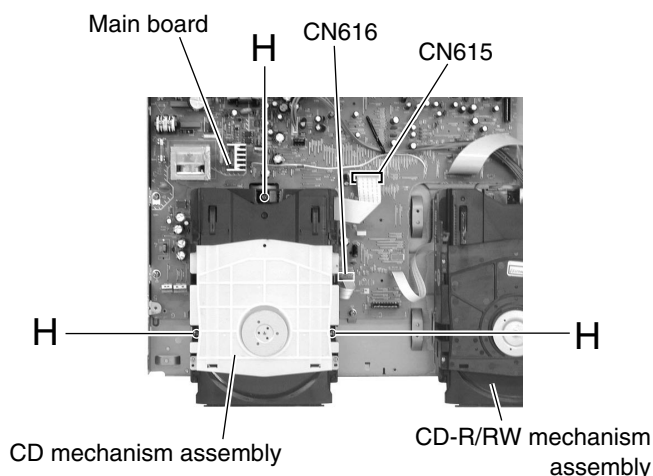

Fig.15
■ Removing the CD mechanism assembly (See Fig.15)